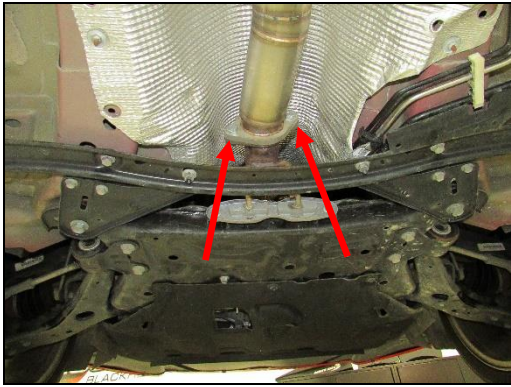

Figure 6
1. Install the center section Hooker blackheart exhaust, using the supplied (x2) 17mm head bolts, (x2) 15mm head nuts to connect the exhaust flange to the OEM down pipe flange or Hooker Blackheart race pipe part number BH3369. Reuse the OEM gasket, but replace if needed (Figure 6).